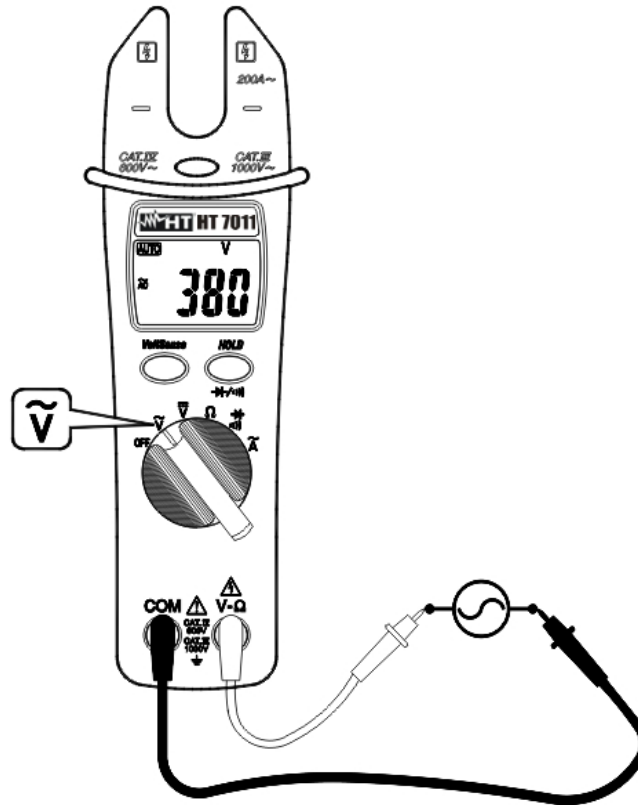

Fig. 3: Taking AC voltage measurement
3. Connect the two long ends of test leads to the desired circuit (see Fig. 3) then reading will be displayed.